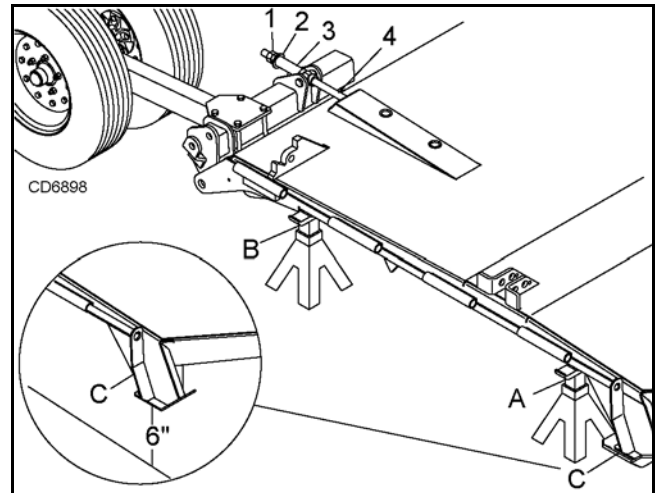

Figure 2. Cutting Height Adjustment
Cutting height range is 2" to 15". A hydraulic cylinder is available for cutting height adjustment. When selecting a cutting height, you should consider the area of operation. If the ground is rolling and has mounds the blades could contact, set the cutting height accordingly. The cutting height is approximately the same height as the top of the center skid shoe (C, Figure 2).
3. Place jackstands (A & B) on each side of center section as show in Figure 2. Set all four jackstands to the same height.
5. Loosen the jam nuts (1) on both right and left attitude rods (4).
6. Tighten main nuts (2) hand tight against sleeves (3). Tighten jam nuts (1) against main nuts.